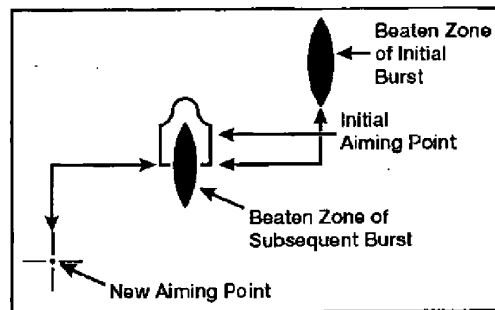

Figure 071-010-0006-8. Adjusted aiming point method
b. Adjustment of fire. Use the adjusted aiming point method to quickly adjust fires without making a sight adjustment. If the initial burst misses the target, rapidly select a new aiming point the same distance from the center of impact of the initial burst but in the opposite direction. Fire a second burst (figure 071-010-0006-8).